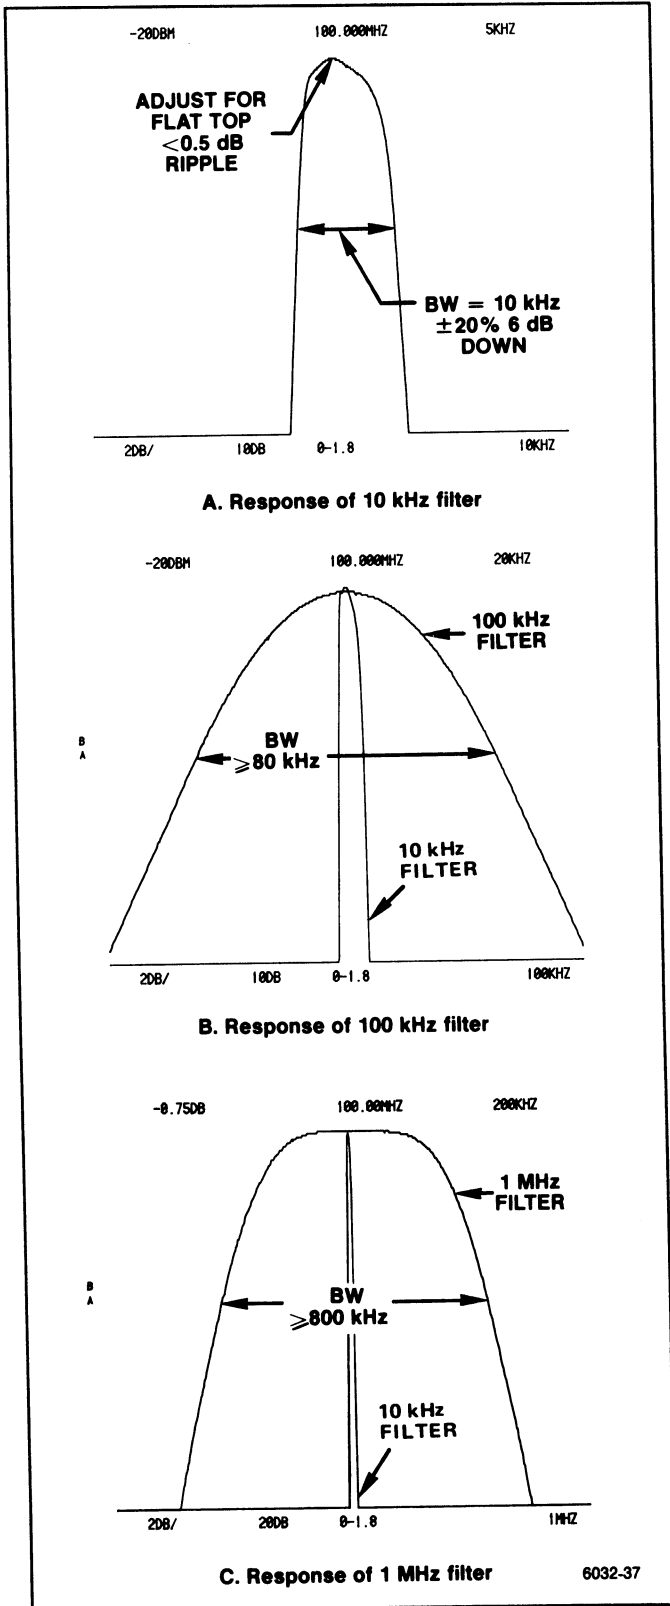

Figure 5-20. 10 kHz, 100 kHz, and 1 MHz filter response.
r. Check the waveshape, bandwidth, and centering of all filters. If necessary, make only fine or minor adjustments. Figure 5-20 shows typical response shapes.
(1) Set the FREQ SPAN/DIV to 500 kHz, RESOLUTION BANDWIDTH to 100 kHz, and REF LEVEL to -20 dBm.
(2) Adjust all filters to the 100 kHz level as per the following table. All adjustments are located on the VR 2nd Filter Select board. Change FREQ SPAN/DIV as necessary to maintain a suitable display.